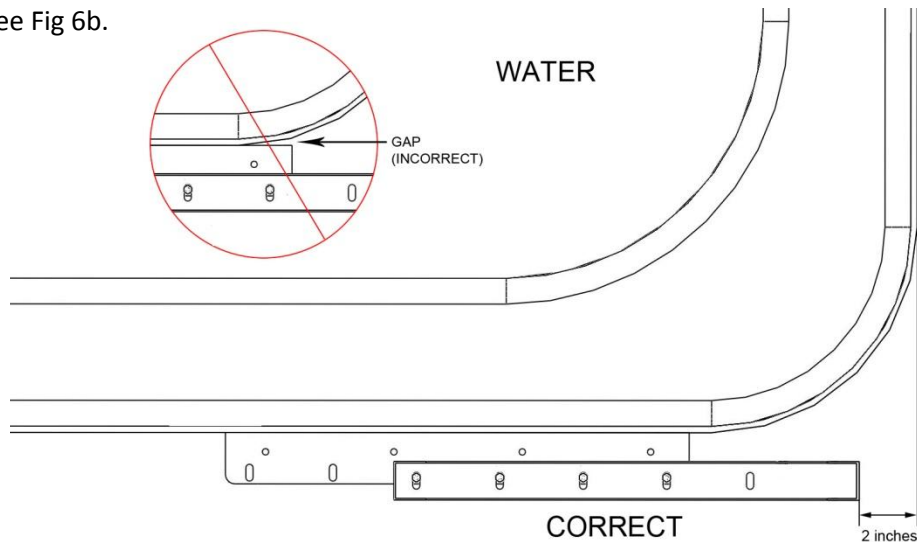

Figure 6b
- b. Place the bracket assembly against the side of the spa. The Side Mount Bracket (cvAA) must be flush with the side of the spa. **Do Not** allow the Side Mount Bracket (cvAA) to hang over the rounded edge. See Fig 6b.